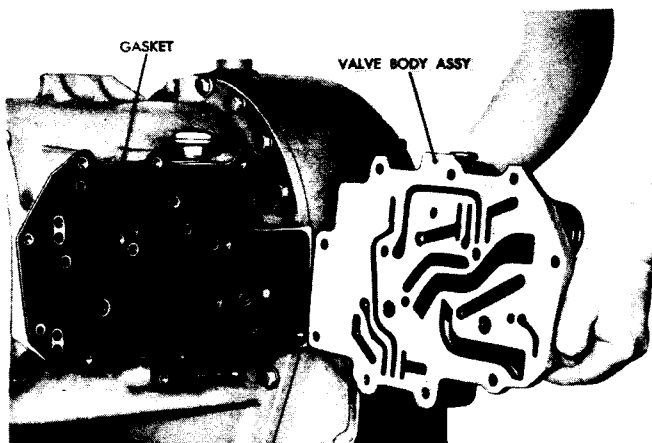

Fig. V-3. Removing (or installing) control valve body assembly
(3) Remove 11 bolts and lock washers which secure the control valve body assembly. Remove the valve body assembly and gasket (fig. V-3). Refer to sect. VI, para 1 through 8 for rebuild of control valve body assembly. The paragraph head will indicate the applicable rebuild paragraph.